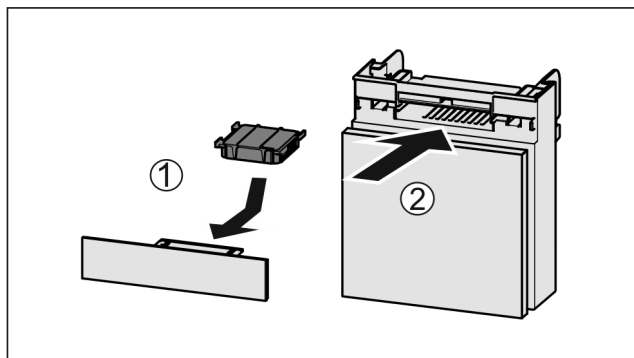

Fig. 43
- Insert the carbon filter as shown in the diagram Fig. 43 (1).
- Push the compartment in Fig. 43 (2).